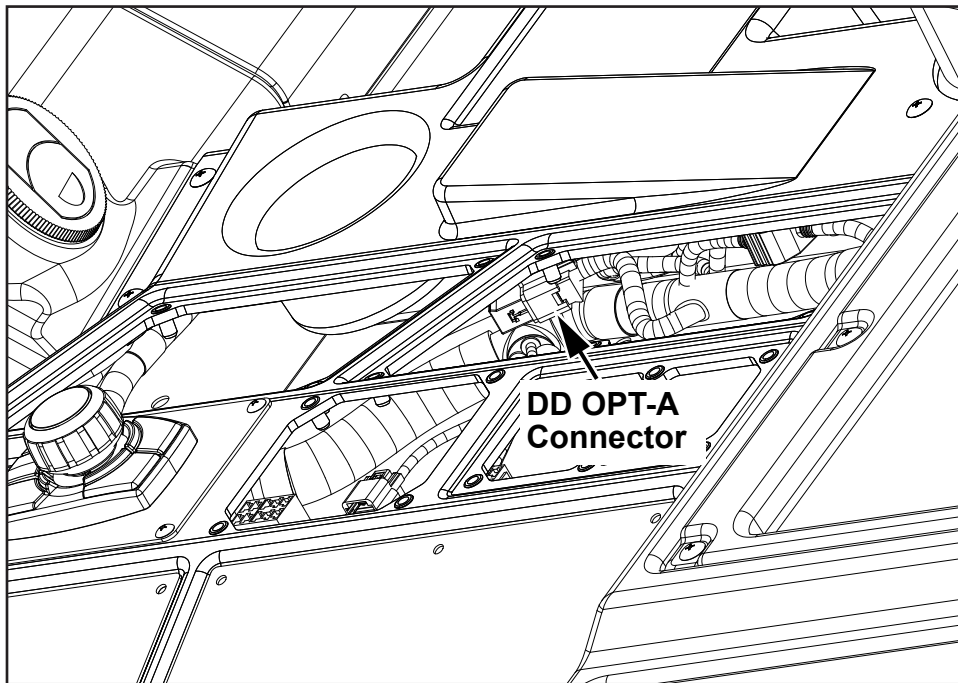

Figure 8
6. Locate the connector labeled "DD OPT-A" (see *Figure 8*).